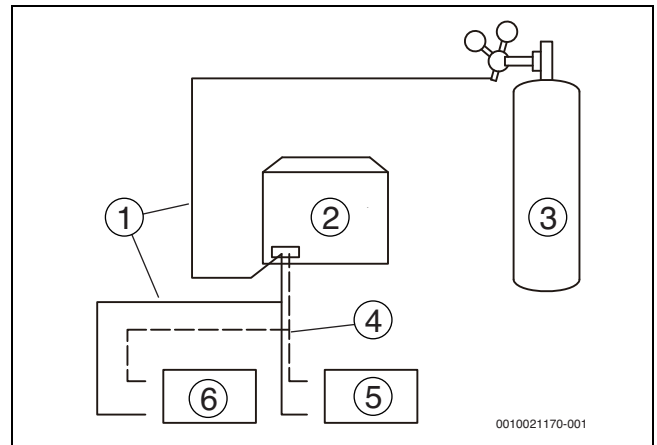

Fig. 32
4. Use blind plugs to block all liquid (gas) side openings, except for the opening at the indoor unit which is furthest from the outdoor units ("Indoor unit A" in Figure 32).